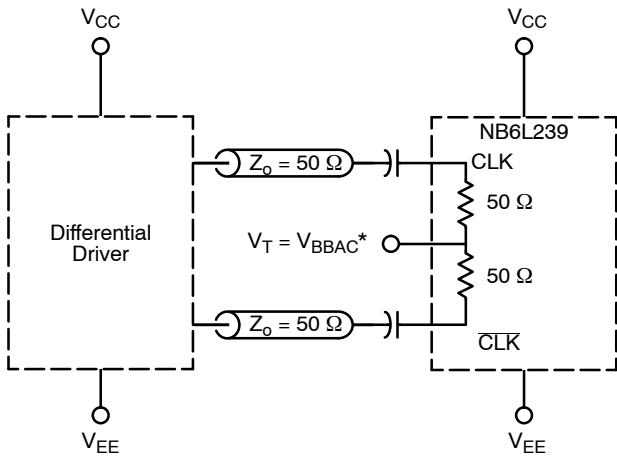

Figure 16. Capacitor-Coupled Differential Interface ( $V_T$  Connected to  $V_{BBAC}$ )
7.  $V_{BBAC}$  used to rebias capacitor-coupled inputs only (see Figures 16 and 17).